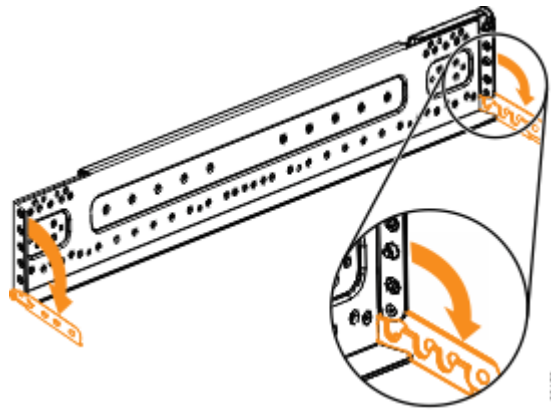

Figure 29. Opening the hinge brackets
4. At each end of the rail, grasp the tab **1** and pull *firmly* to open the hinge bracket. See Figure 29 on page 65.